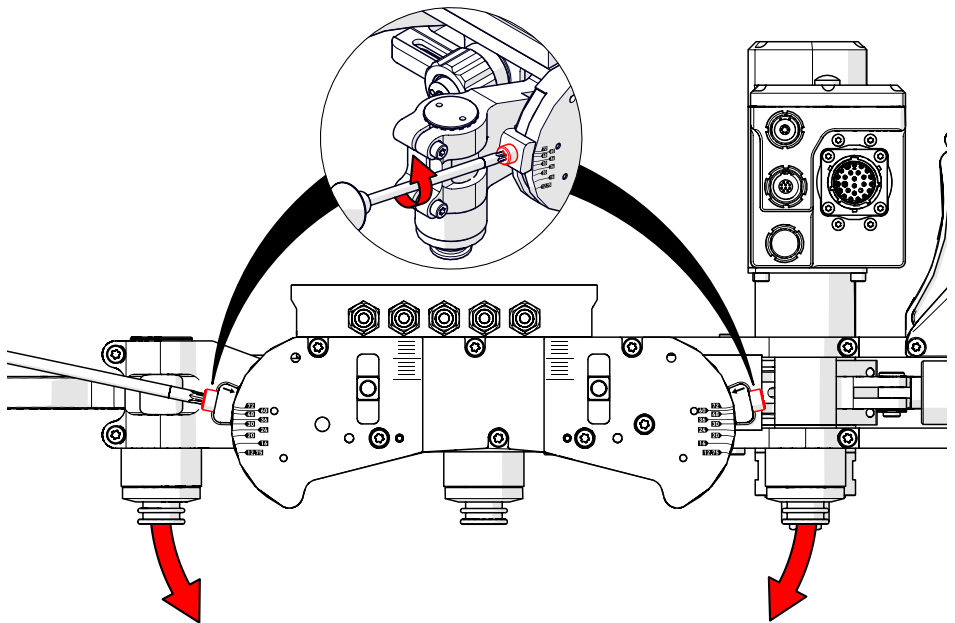

Fig. 62 - Carriage angle adjustment
1. Using the supplied T30 Torx driver, loosen the angle adjustment screws (Fig. 62).
2. This action will allow the wings of the carriage to be adjusted to the size of the (approximate) pipe diameter (Fig. 62).